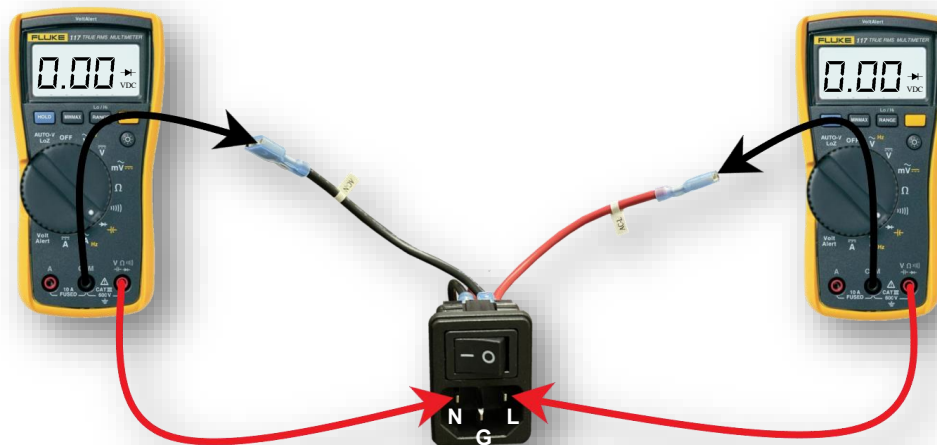

Figure 47 – PEM Continuity Test
- d. With the power cord unplugged, remove the AC-L and AC-N wire terminals from the PCB (**See Figure 47**). Set the Multimeter to the Diode Test Mode \rightarrow . Connect one probe of the Multimeter to the AC-N (black wire) terminal of the PEM and the other probe to the N male post at the input.